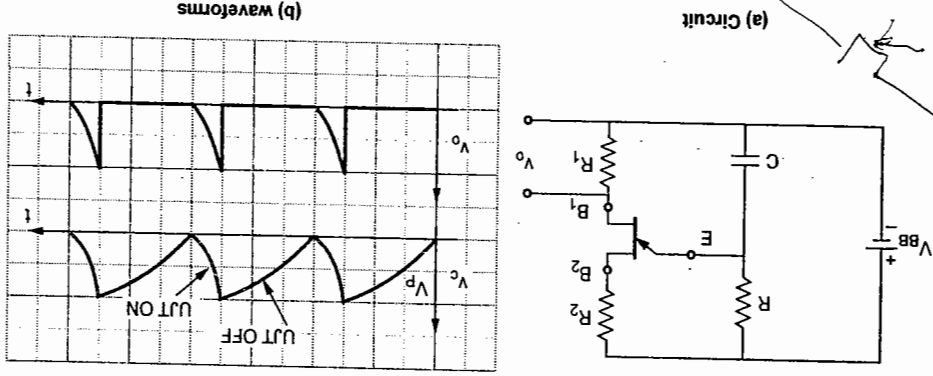

Fig. 2.6.4 UJT relaxation oscillator
- Fig. 2.6.4 (a) shows the circuit diagram and waveforms of the UJT relaxation oscillator. The capacitor 'C' is charged through resistance 'R' from zero voltage. UJT is off at this time.
- When capacitor voltage is equal to V_p , the UJT turns ON. The capacitor discharges through emitter, B_1 and R_1 . Note that R_1 is external resistance connected to UJT. The voltage across R_1 is v_o . The waveforms are shown in Fig. 2.6.4 (b).